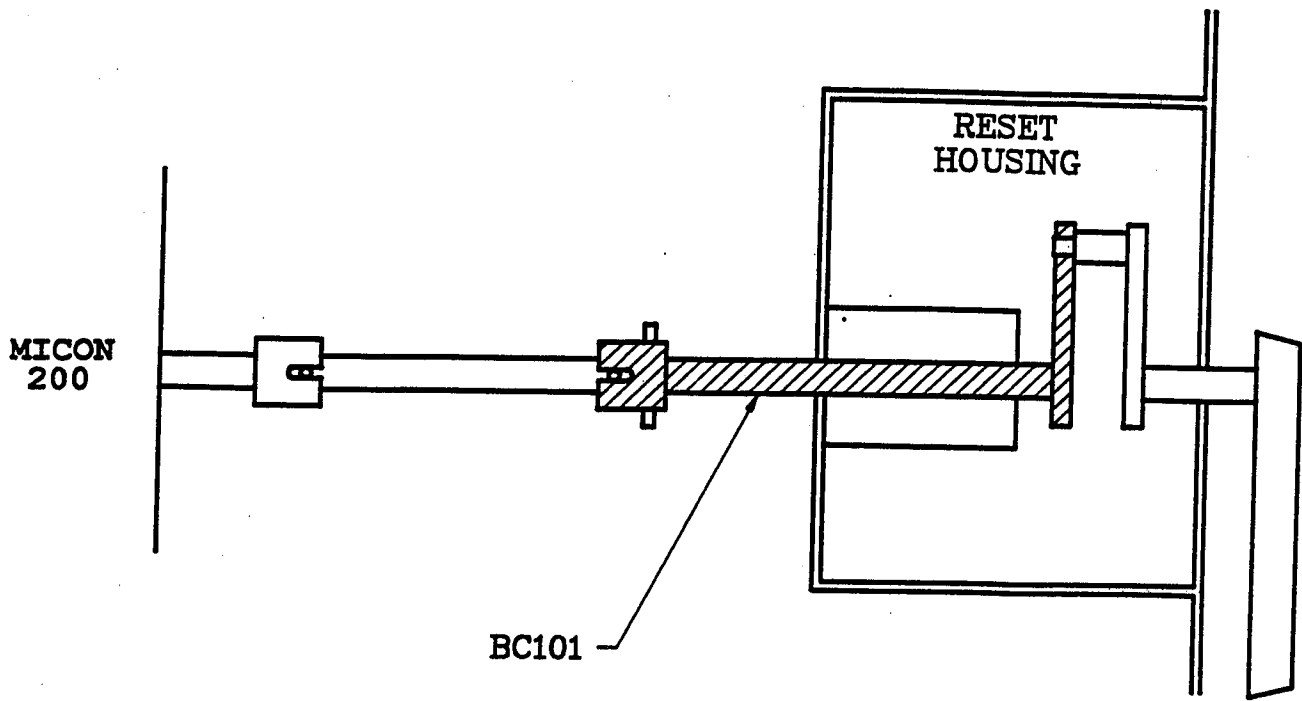

FIGURE 9.1
- 2) Install the BC101 conversion shaft into the reset housing as shown in Figure 9.1.